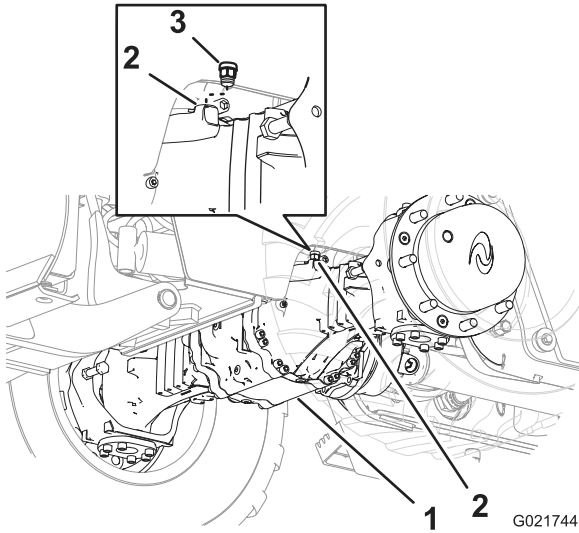
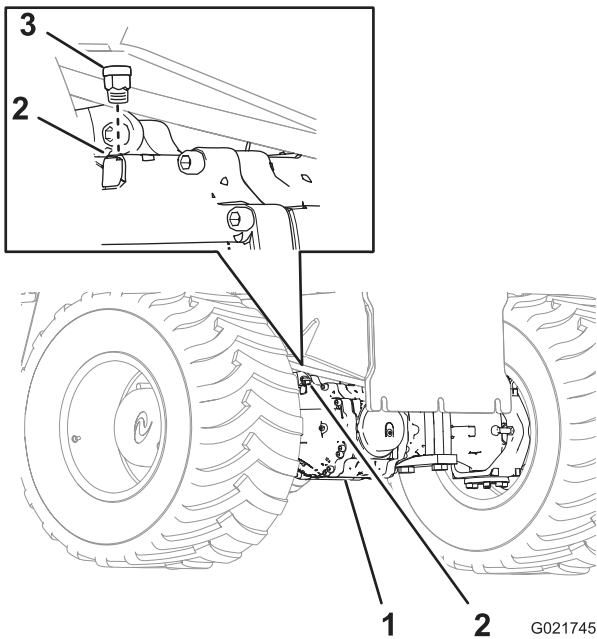

Figure 75
Figure 76
1. Clean the area around the breathers with a cleaning solvent (Figure 75 and Figure 76).
6. Install the breather in the front axle (Figure 75).
7. Install the breather in the rear axle (Figure 76).
2. Remove the breather from the front axle (Figure 75).
3. Remove the breather from the rear axle (Figure 76).